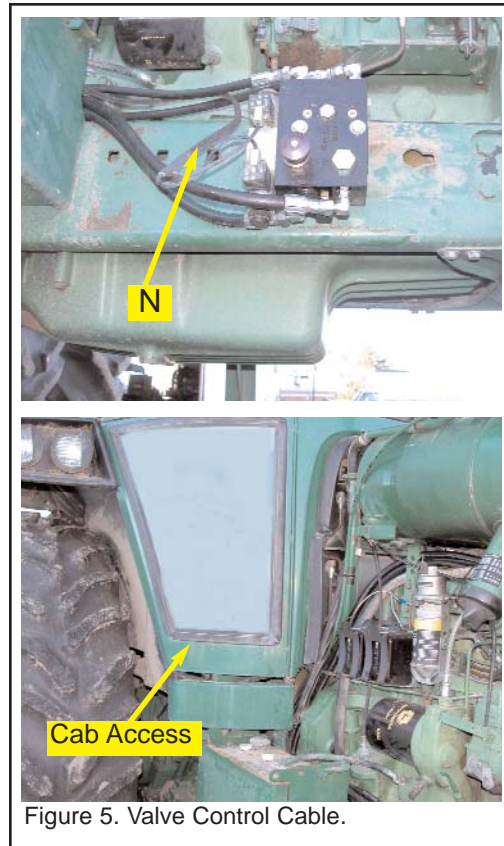

Figure 5. Valve Control Cable.
- a. Route the Valve Control Cable (N) from the Automated Steering Bock through the cab access window in the lower front corner of the cab. (Figure 5.)